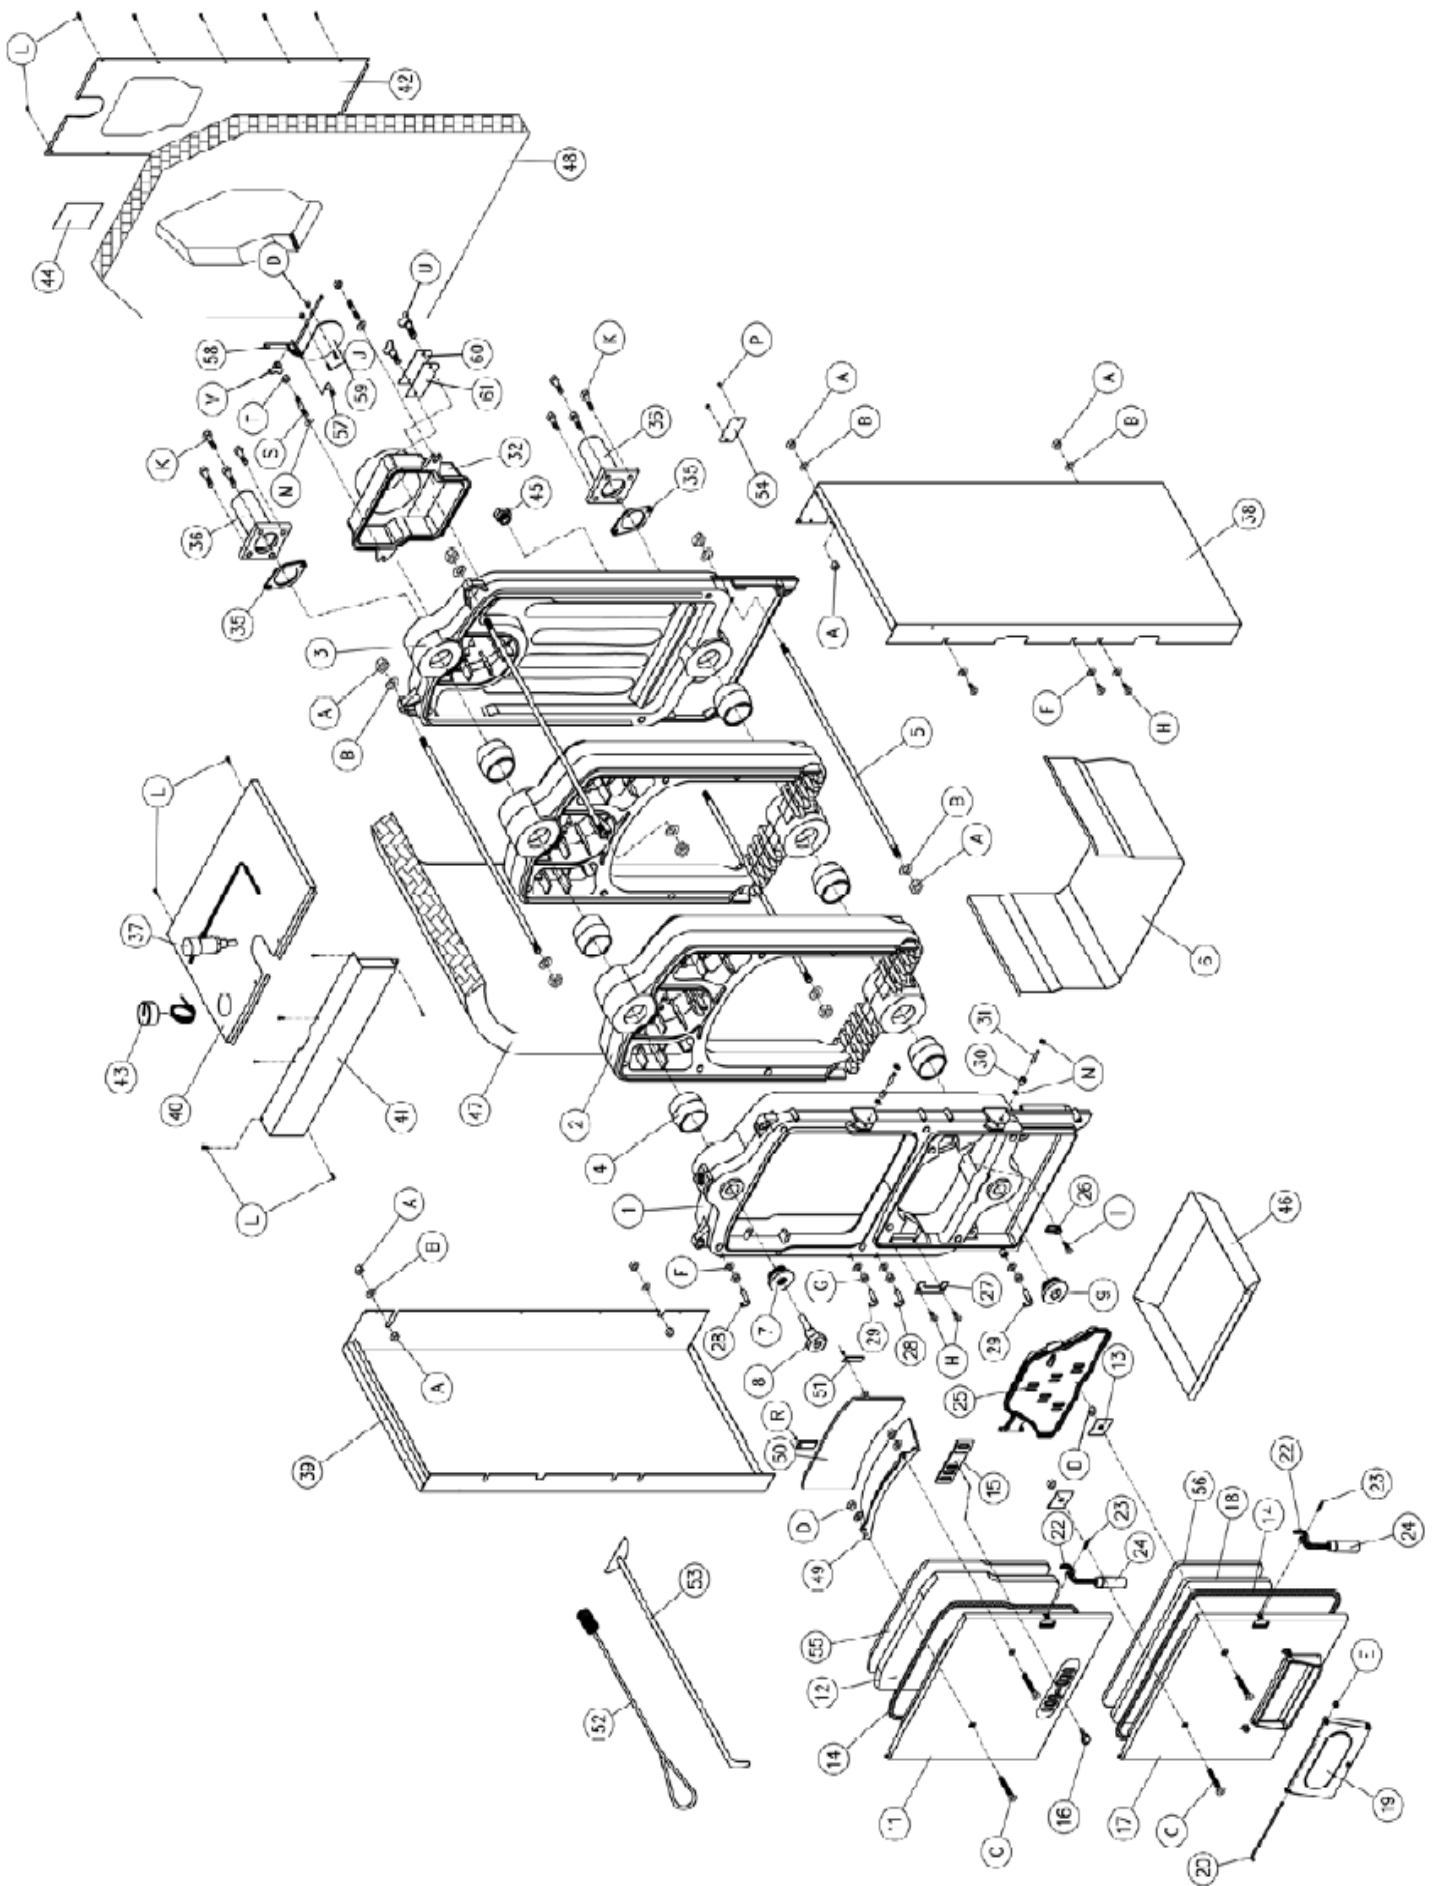

Figure No. 11 – Boiler assembly
When cleaning the boiler, remove the suspension plate (50) shown in the figure No. 11.
Legend to the figure No. 11